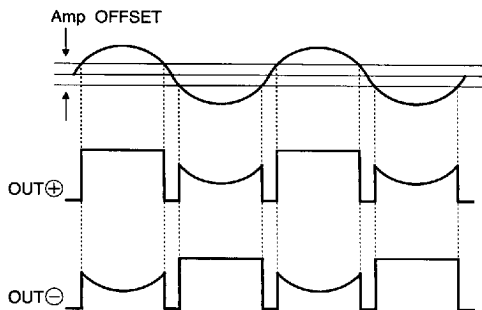

Fig.9
(3) Output waveforms are shown in Fig. 9. Because of the amplifier offset, the output is left OPEN when the output signal switches from positive to negative. The output waveform is determined by the external circuit because the IC impedance increases during this transition period. Since inductive loads are usually provided, a capacitor should be connected to suppress the backlash voltage.